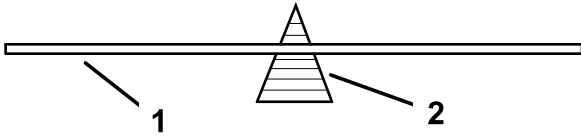

Figure 40
- For straight blades only, check the balance of the blade by putting it on a blade balancer (Figure 40).